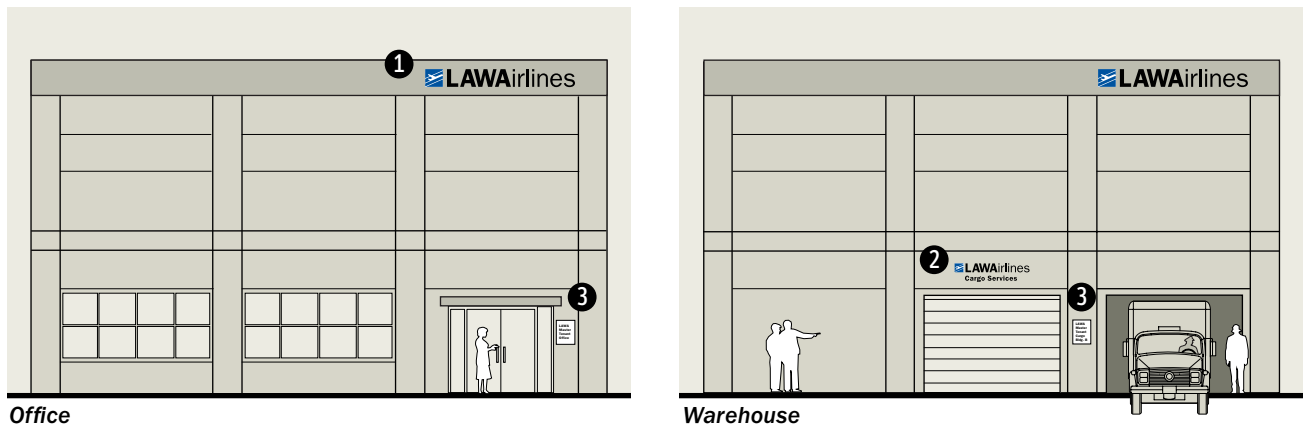
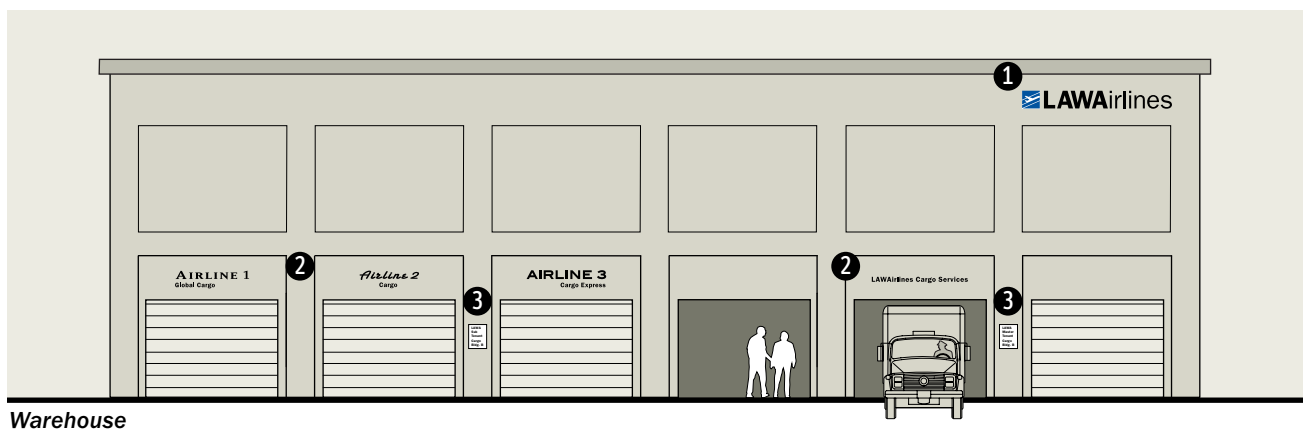
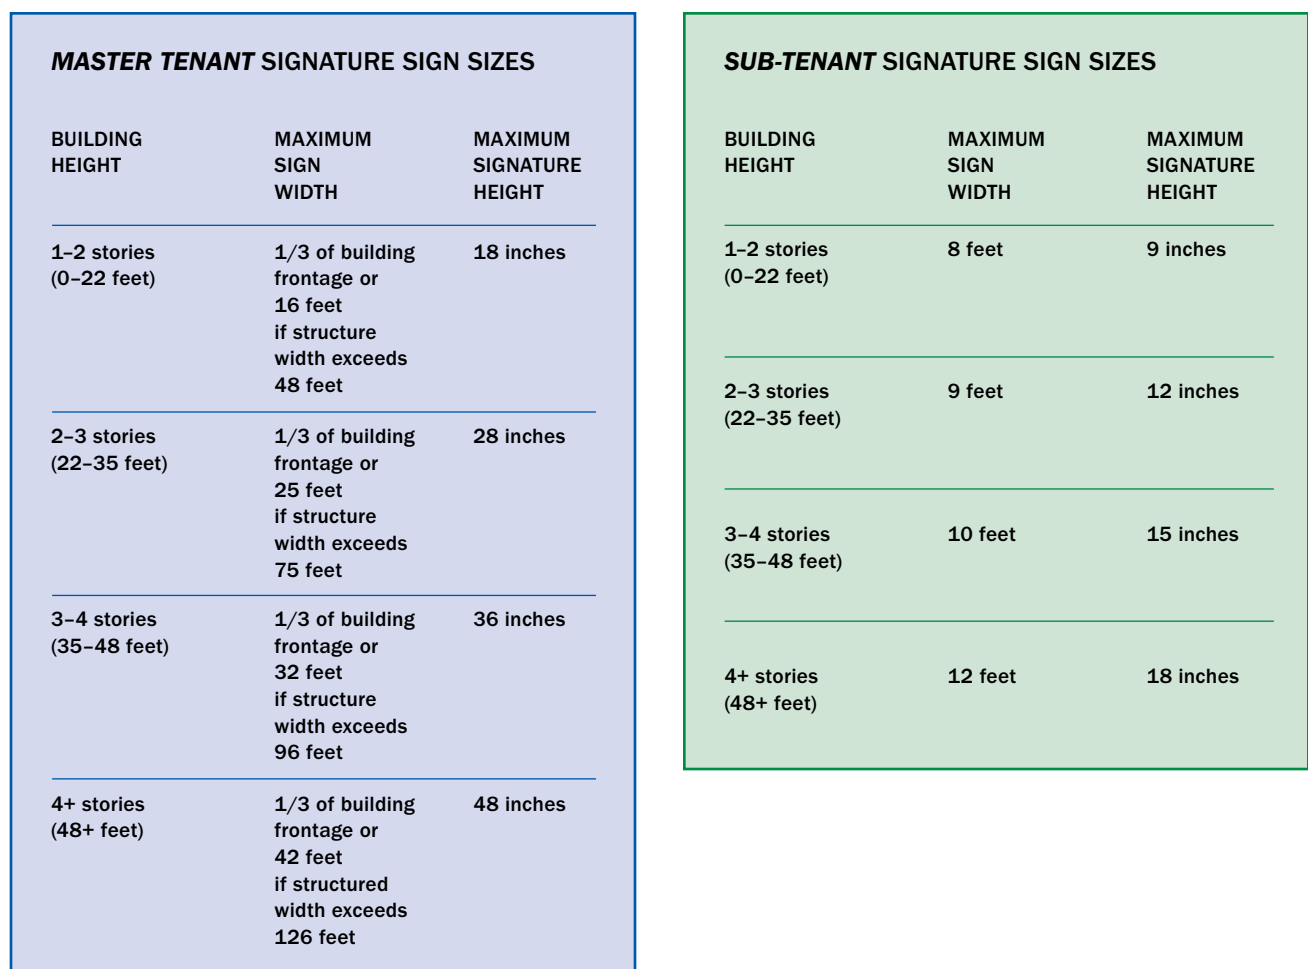

Figure 4a: Master Tenant Building
Figure 4b: Multiple Tenant Building
Figure 4e: Building size to corporate signature sign size specifications.
Master tenant office and warehouse buildings may include a corporate signature sign and a regulatory or informational sign as needed (Figure 4a). Multiple tenant buildings with a master tenant and one or more sub-tenants may include a corporate signature sign and a regulatory or informational sign for each occupant. (Figure 4b). Refer to the Master Tenant and Sub-Tenant standards on the following pages for details.
- ❶ Refer to the Master Tenant Signature Sign Size chart in these Standards to determine primary corporate sign size. *(Figure 4e)*
- ❷ Tenant corporate signature signs above a bay door may not exceed 8 feet in width or the width of the bay door, whichever dimension is less. *(Figure 4e)*
- ❸ Tenant informational signs must not exceed 8 square feet in area.
❶❷❸ See Figures 4a, 4b, 4c.
- ❶❷ Refer to the Master Tenant Signature Sign Sizes chart in these Standards. *(Figure 4e)*
- ❸ Maximum capital height for regulatory or information signs is 6 inches. No corporate signature is allowed on this sign. *(Figure 4e)*
- 1 Refer to the Master Tenant Signature Sign Sizes chart in these Standards to determine primary corporate sign size. *(Figure 4e)*
- 2 Refer to the Sub-Tenant Signature Sign Sizes chart in these Standards to determine primary corporate sign size. *(Figure 4e)*
1 2 3 See Figures 4a, 4b, 4d.
- 1 Refer to the Master Tenant Signature Sign Sizes chart in this section. *(Figure 4e)*
- 2 Refer to the Sub-Tenant Signature Sign Sizes chart in this section. *(Figure 4e)*